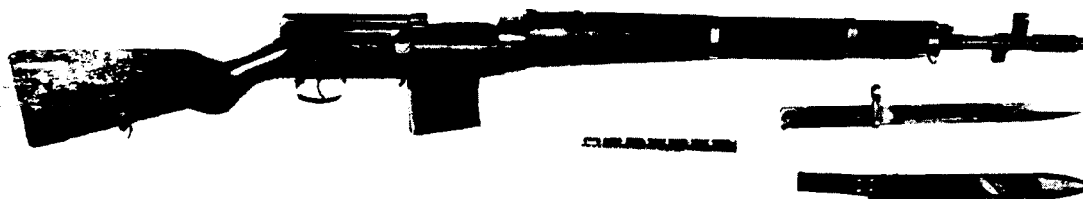

FIGURE 53. 7.62-MM SEMIAUTOMATIC RIFLE M1938 (SVT).
The Tokarev 7.62-mm semiautomatic rifle M1938 (SVT)2 (fig. 53), was the first of a series of Tokarev rifles. This model has a two-piece stock and is very lightly built. It is believed obsolete in Soviet and satellite forces.
a. The semiautomatic rifle M1938 (fig. 53) uses the same type of gas port, gas regulator, and operating rod mounted above the barrel as the automatic rifle M1938.